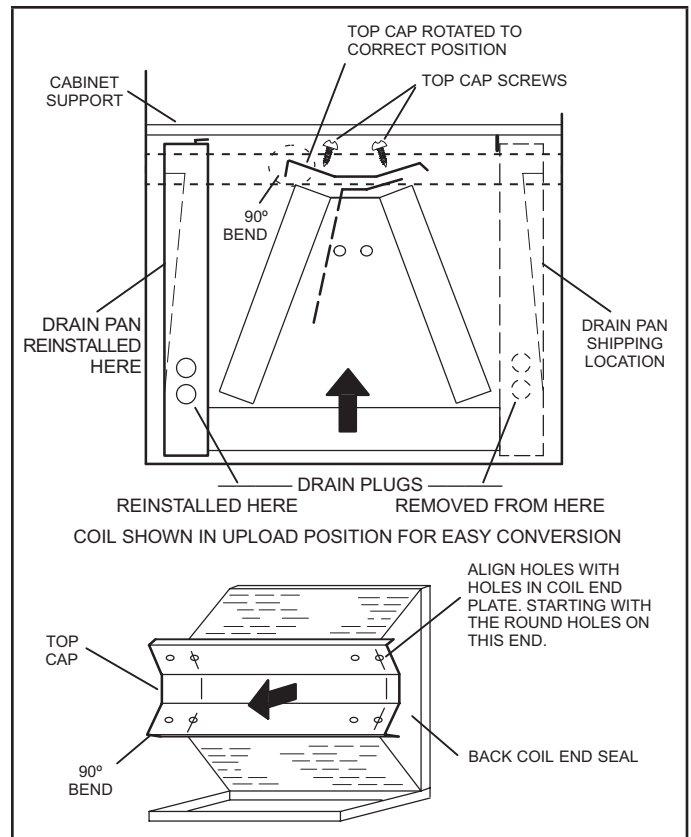

FIGURE 14. Field Modification for Left-Hand Discharge
- 7 - Rotate top cap 180° front-to-back and align with unused screw holes. Holes must align with front and back coil end plates. The top cap has a 45° bend on one side and a 90° bend on the other. **The 90° bend must be on the same side as the horizontal drain pan as illustrated in figure 14.**